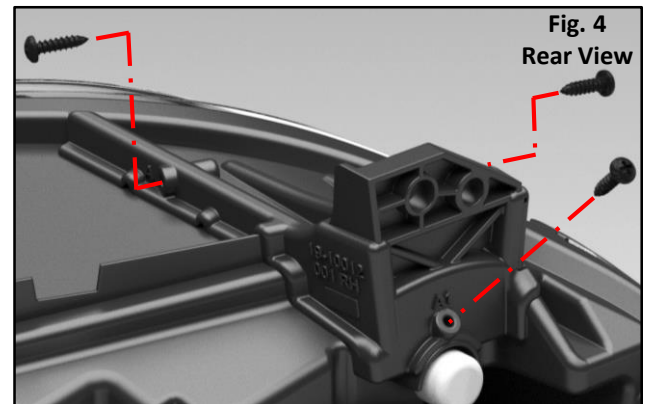

Fig. 4
4. Install: Install the prepared tab(s) ensuring a flush fit to the housing **Fig. 4**. Next, drive the 5/8" screws at the locations marked (A1). Followed by locations marked (A). **DRIVE SCREWS MANUALLY. APPLY GLUE TO SCREW THREADS BEFORE DRIVING.** Do not overtighten screws. Allow the glue to cure for approximately 30 minutes before installing the repaired headlight on the vehicle.